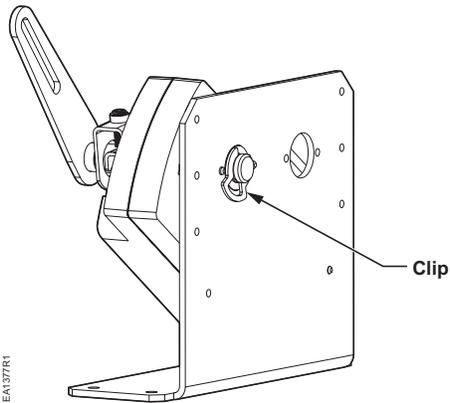

Figure 3. Clip Position for Lever above the Actuator.
- If the lever is to be mounted directly above the actuator, assemble the clip as shown in Figure 3.